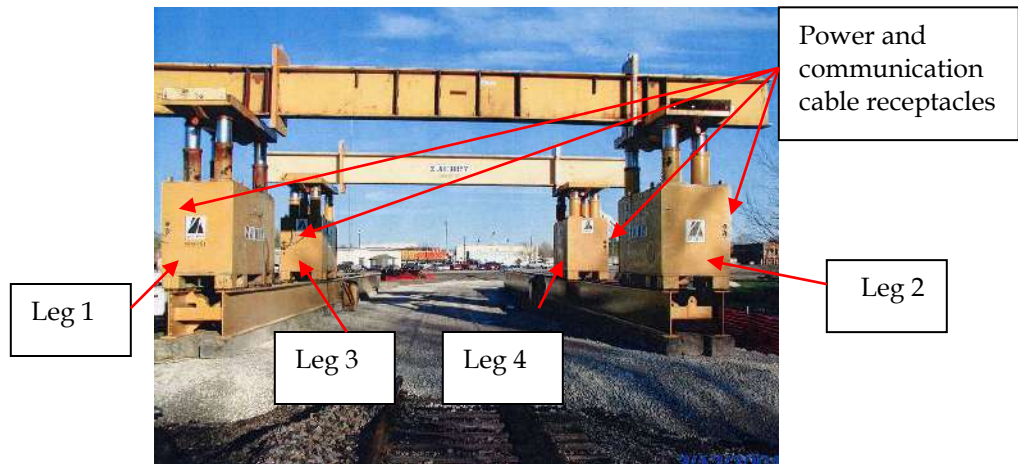

Figure 6.2 - set up
1. Position the legs parallel to each other. Always place the legs so that the power and control cord receptacles are on the outside edge. When positioning 4 legs, always face the front end of all legs in the same direction. Facing the front ends in the opposite direction will prevent the gantries from traveling in the same direction (See figure 6-2).